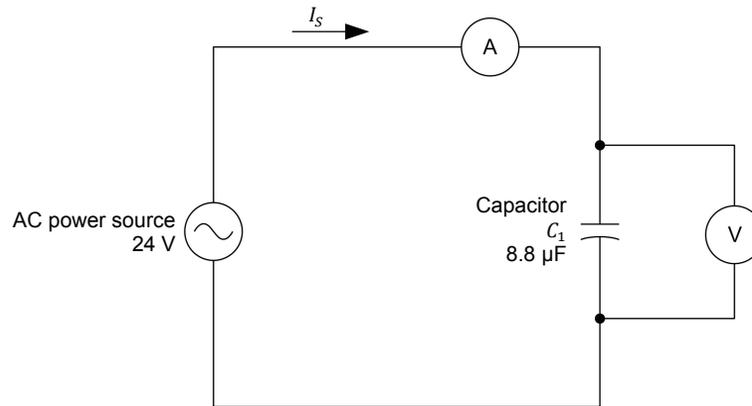

Figure 21. AC power source connected to a capacitor.
21. Connect the circuit shown in Figure 21. Use the first 8.8  $\mu\text{F}$  capacitor to implement the capacitor.